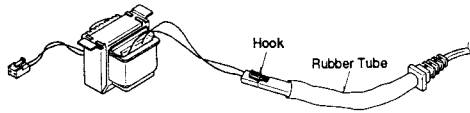

Figure 42
(1) After cutting two cord clamps, move rubber tube aside, and unhooking hook of connector, disconnect AC cable as shown in Figure 42.